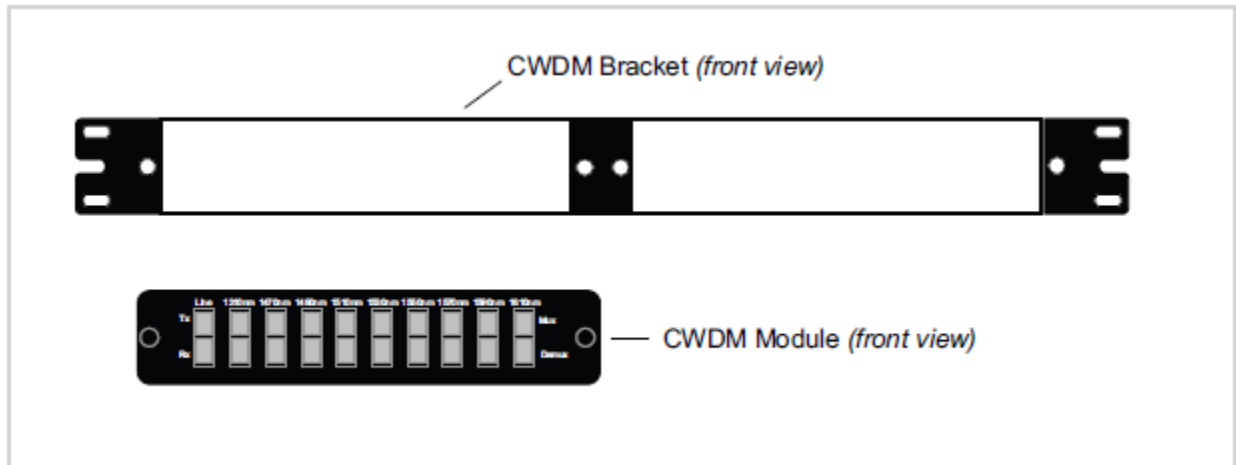

Figure 3: Bracket and CWDM Module
1. Locate the CWDM module and bracket. See Figure 3.